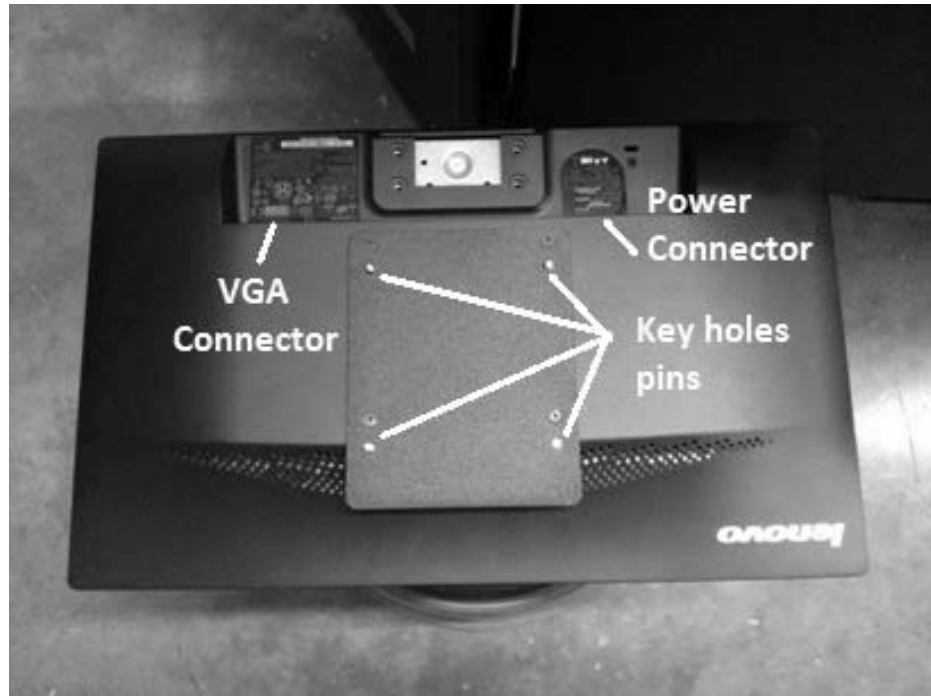

Figure 15. Back side of monitor
- 2. Refer to Figure 15 on page 31 to become familiar with the locations of the connectors and mounting pins on the back side of the IMC monitor.